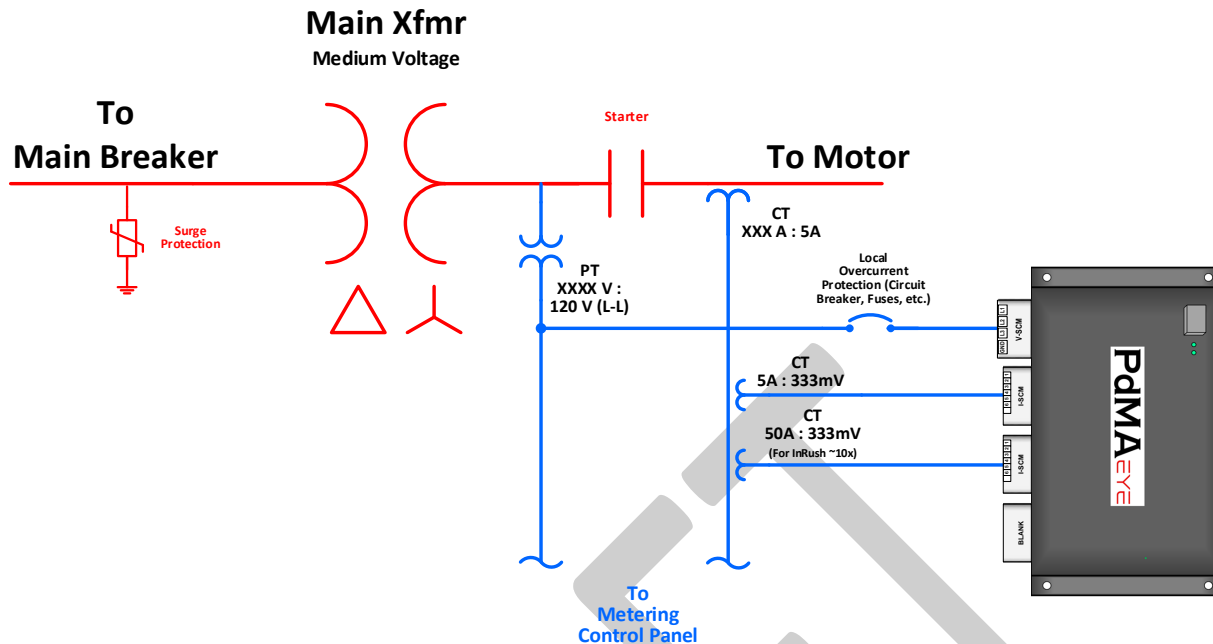
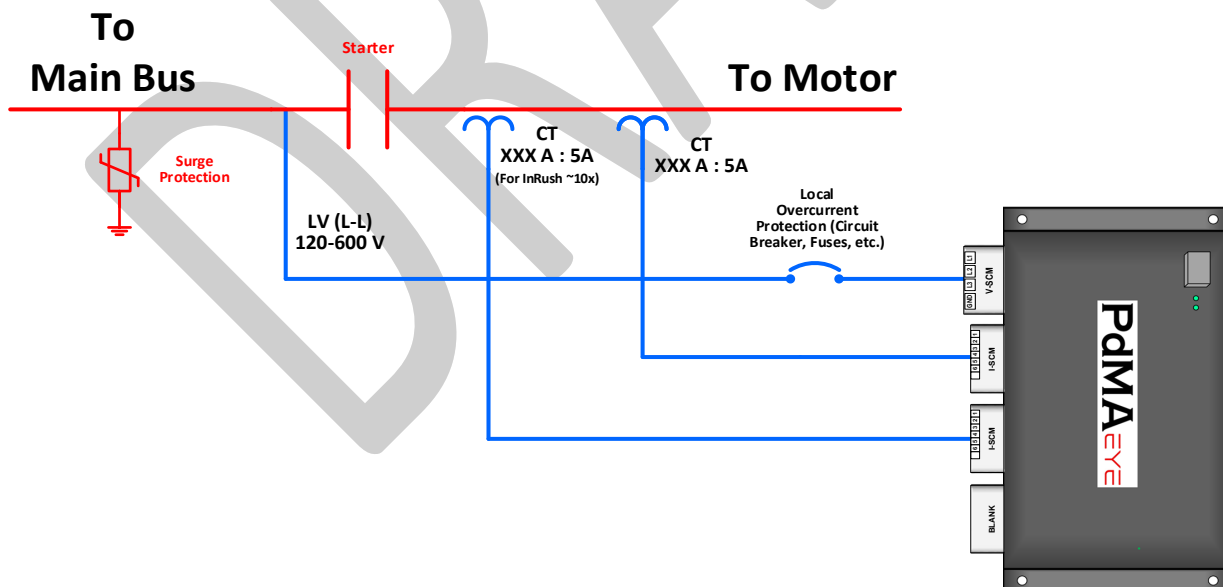

Figure 5 – Recommended general location of connections in a Medium Voltage Motor Circuit (Example)
Figure 6 - Recommended general location of connections in a Low Voltage Motor Circuit (Example)
7. Use either Figure 5 for a Medium Voltage Circuit or Figure 6 for a Low Voltage Circuit, as a guide to determine where in the Motor Circuit to connect the PdMA_{EYE}.
Consult your facility engineering team to determine the appropriate location to connect the PdMA_{EYE} using either Figure 5 for a Medium Voltage Circuit or Figure 6 for a Low Voltage Circuit, as a guide to determine where in the Motor Circuit to connect the PdMA_{EYE}. Consideration should be given to Offline testing as well as Online testing.